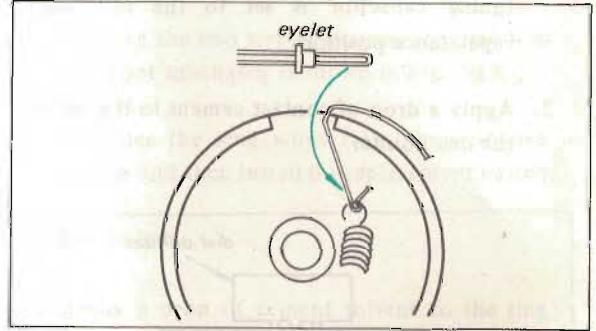

Fig. 2-8 Finishing dial cord stringing
5. Pass the doubled end of the cord through the eyelet, then hook it to the spring as shown in Fig. 2-8.